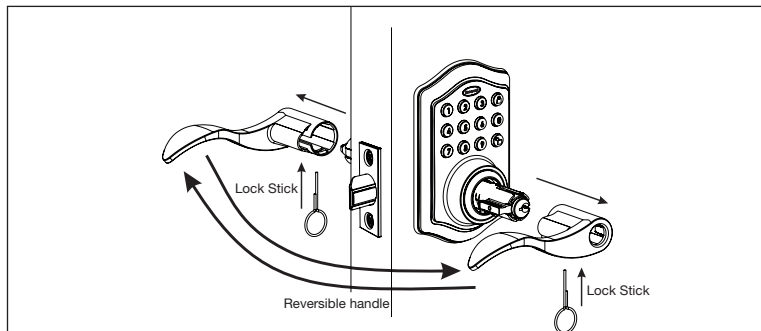

Figure 11a-c
- Make sure the Door Lock is in the unlocked position and then release catch by inserting Lock Stick into the slot on the underside of levers (Figure 11a).